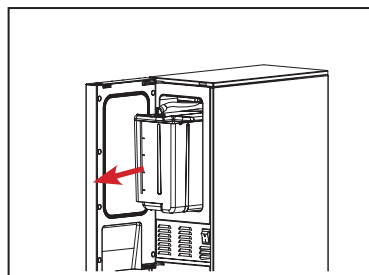

Fig.1
1. Open the door and slide the milk tank out (See Fig.1).